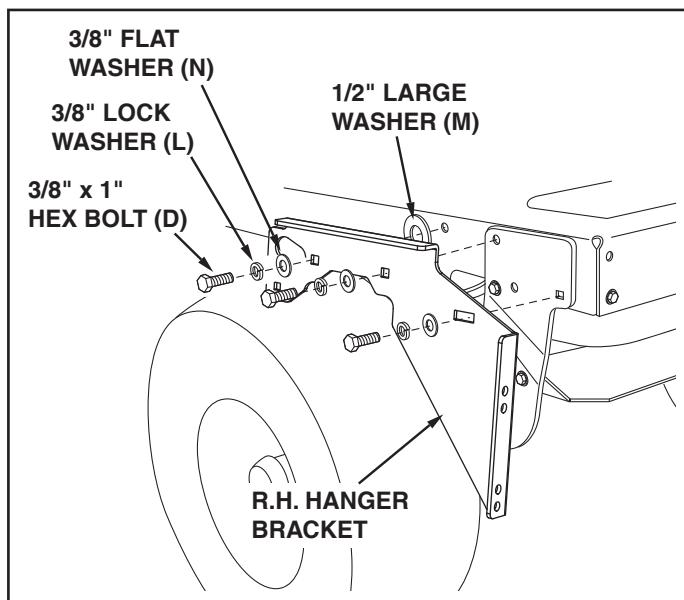

FIGURE 6
### STEP 6: (SEE FIGURE 6)
- Assemble the two angle lock bars together as shown in figure 6, so that all holes are aligned. Use one 3/8" x 1-1/4" carriage bolt (E) and one 3/8" nylock nut (L). Be sure to insert bolt from side indicated. **Do not tighten at this time.**